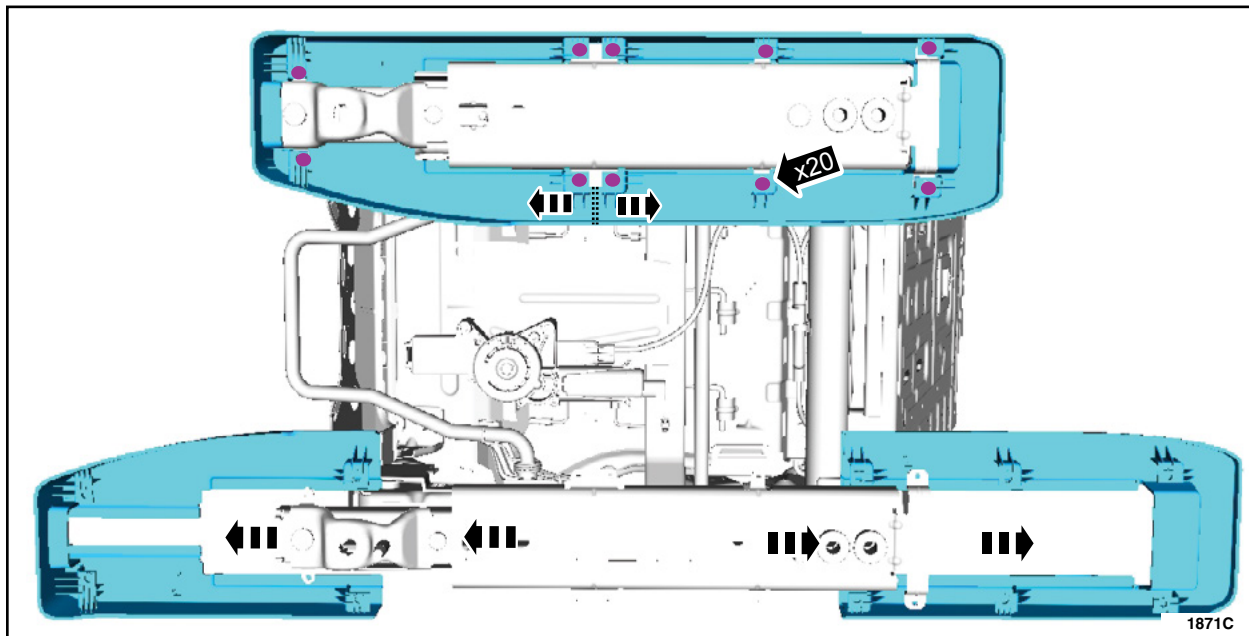

FIGURE 3
4. Remove both of the lower second row center seat track shields. See Figure 3.
28. Install both of the lower seat track shields. See Figure 3.